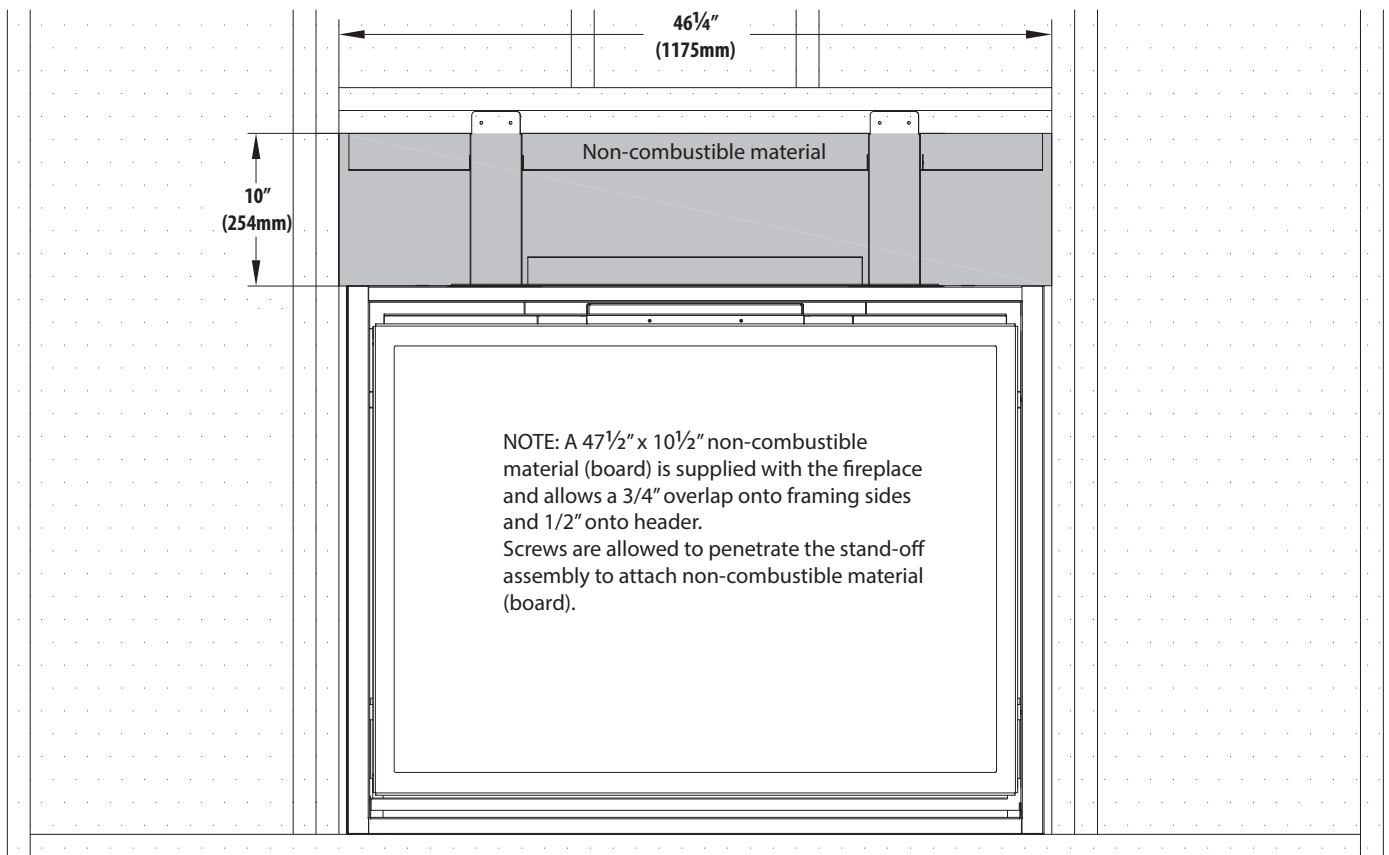

FIGURE 4.4 *Non-Combustible Material*
- This appliance is shipped with a 1/2" thick non-combustible material (board) that overlaps the header and the sides of framing. See **FIGURE 4.4** on page 26. Screws are allowed to penetrate the steel framing assembly to attach finishing material.